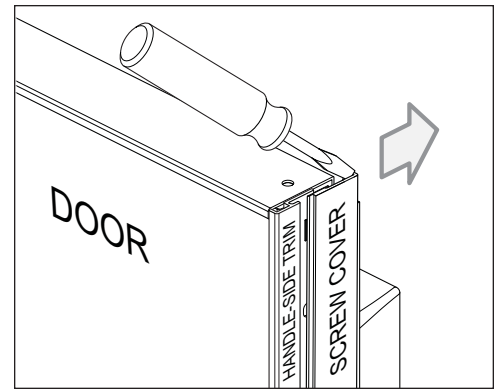

Figure 1. Screw Cover Removal
1. At the top of the door, insert a flat blade screwdriver into the channel of the screw cover and push the cover back so that it disengages from the handle-side trim (See Figure 1).